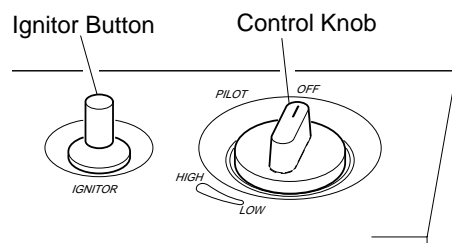

Figure 16 - Control Knob In The OFF Position
4. Wait five (5) minutes to clear out any gas. Then smell for gas, including near the floor. If you smell gas, STOP! Follow "B" in the safety information, page 10, column 3. If you don't smell gas, go to the next step.
5. Press in control knob and turn counterclockwise to the PILOT position. Keep control knob pressed in for five (5) seconds (see Figure 16).